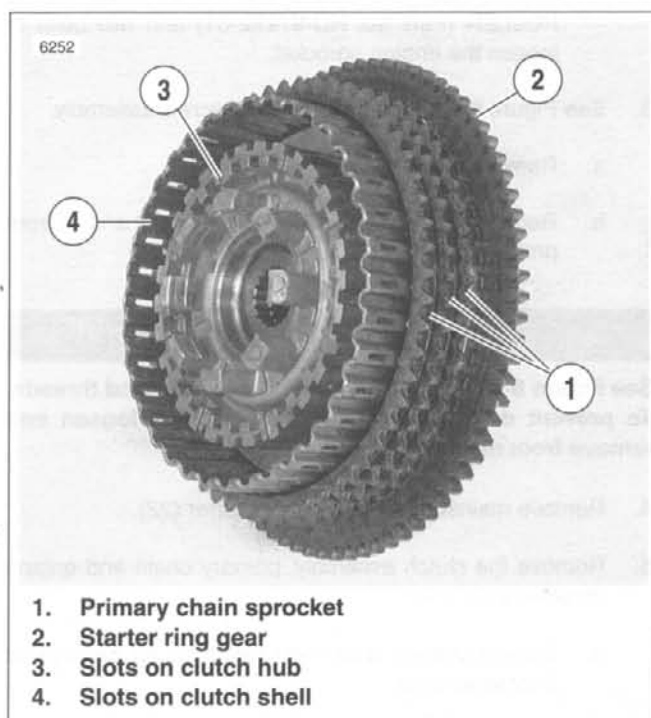

Figure 6-20. Checking Clutch Shell
4. See Figure 6-20. Check the clutch shell.
- a. Inspect primary chain sprocket (1) and the starter ring gear (2) on the clutch shell. If either sprocket or ring gear are badly worn or damaged, replace the clutch shell.
- b. Check the slots that mate with the clutch plates on both clutch shell (4) and hub (3). If slots are worn or damaged, replace shell and/or hub.